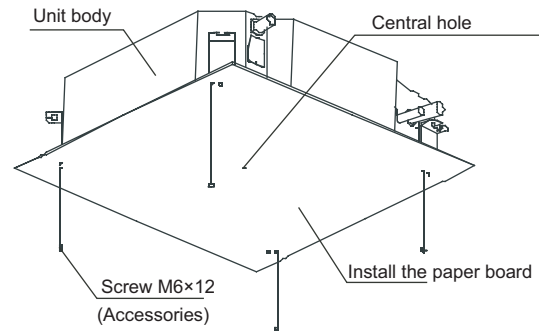

Fig. 4-5
- 2 After installing the body, please fasten the installation paper board onto the air conditioner with bolts(M6X12) to determine in advance the sizes and positions of the hole opening on ceiling. (refer to Fig. 4-5)